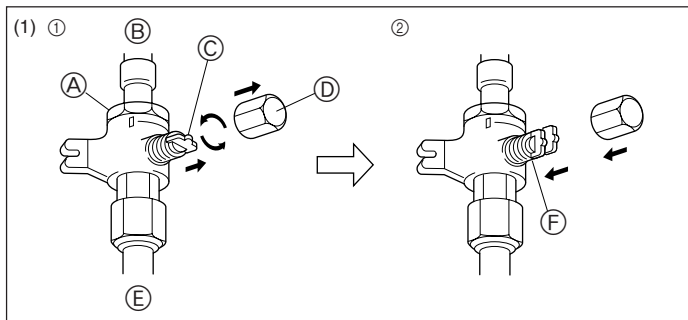
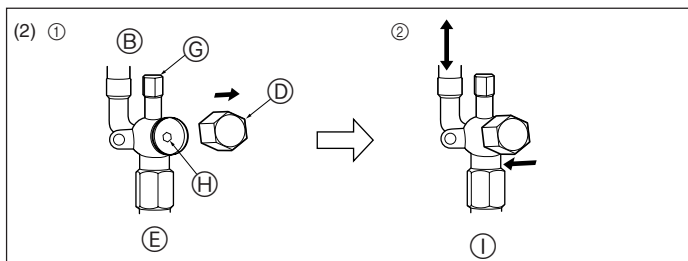

Fig. 4-4
Fig. 4-5
- (1) Gas side (Fig. 4-4)
- ① Remove the cap, pull the handle toward you and rotate 1/4 turn in a counterclockwise direction to open.
- ② Make sure that the stop valve is open completely, push in the handle and rotate the cap back to its original position.
- (2) Liquid side (Fig. 4-5)
- ① Remove the cap and turn the valve rod counterclockwise as far as it will go with the use of a 4 mm hexagonal wrench. Stop turning when it hits the stopper. (ø6.35: Approximately 4.5 revolutions) (ø9.52: Approximately 10 revolutions)